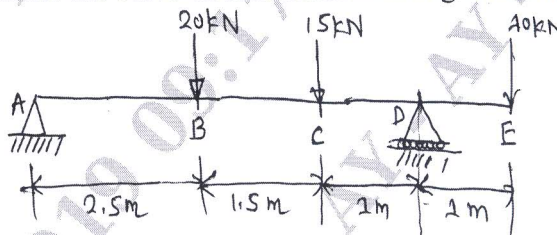

Fig.Q.5
- 5 Draw shear force and bending moment diagram for the beam as shown in the Fig.Q.5 marking values at salient points. Locate the point of contraflexure and point of maximum bending moment. Determine the value of maximum bending moment. (20 Marks)